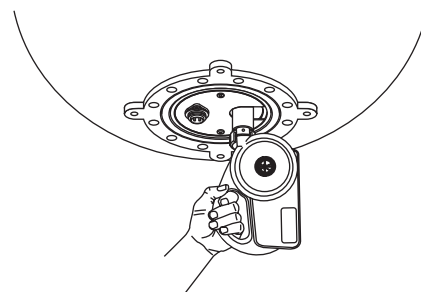

Figure 23. Inflating the Balloon
4. Unscrew the cap (Figure 23) on the lamp fixture and use blower to inflate balloon until it is taut. Screw the cap back on and tighten.